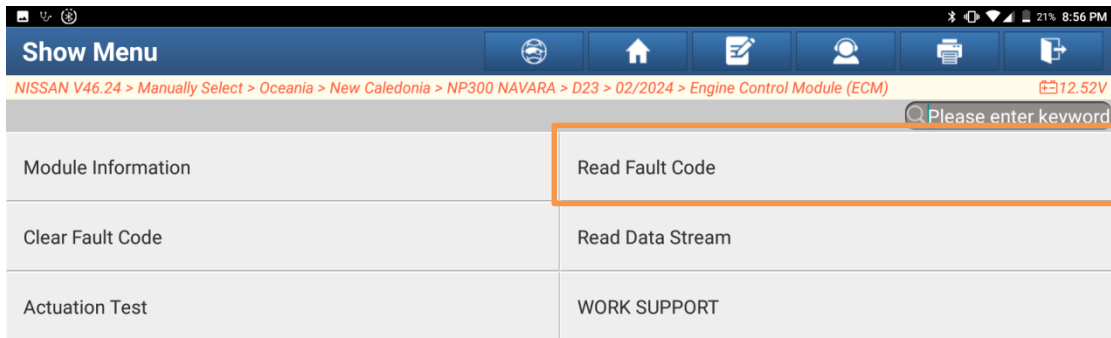
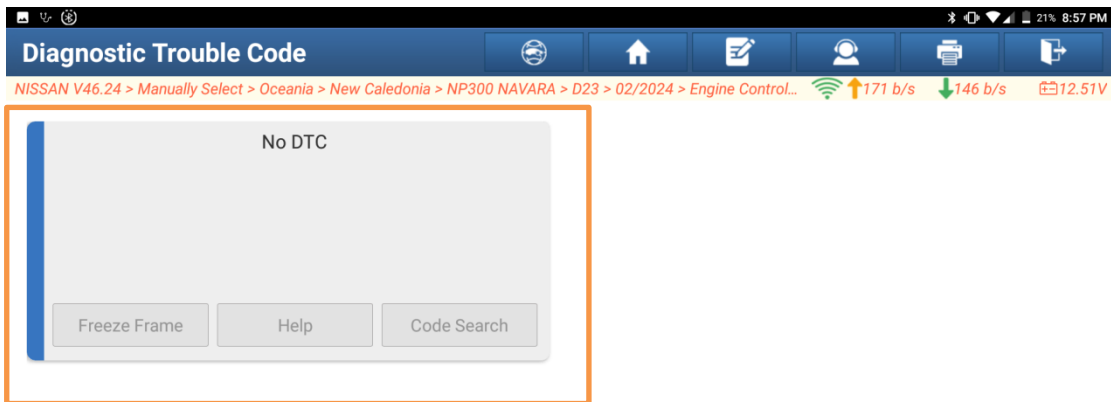

Figure 21
Figure 22
14. On the ECM menu interface, click [Read Fault Code] (Figure 21) to read the ECM DTC information. No DTC is displayed (Figure 22), indicating that the injector codes are successfully written. The special function operations for inputting injector codes are now completed.